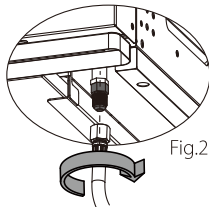

Fig.2
3. Screw the hose to the adaptor tighten with a spanner as shown on Fig.2 below. Please do not over tighten the regulator hose otherwise there is a possibility that you will damage the adaptor.